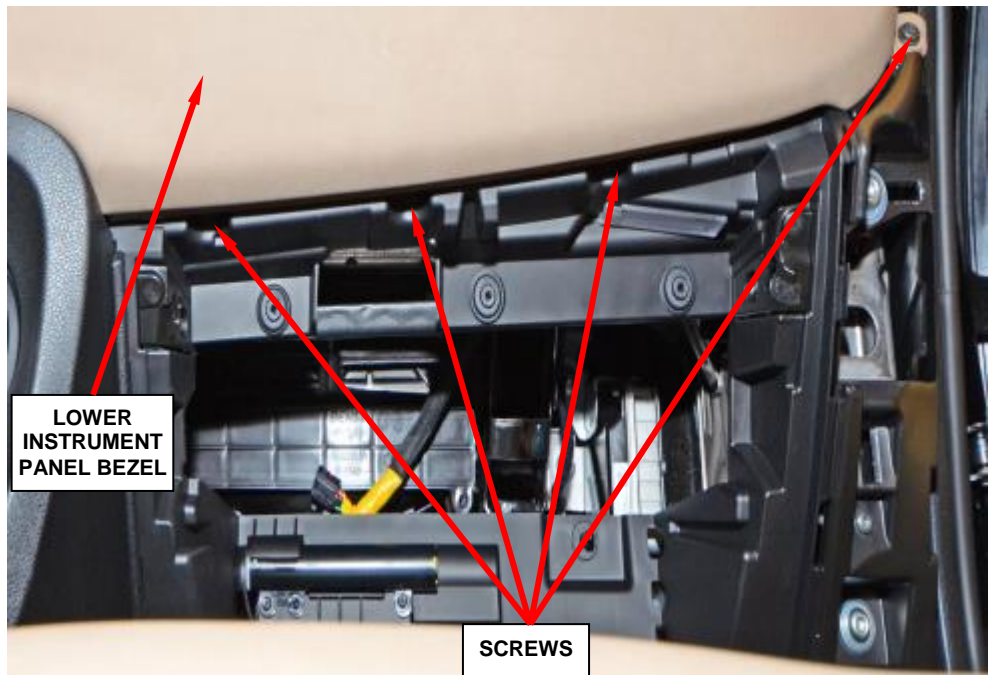

Figure 28 – Lower Instrument Panel Bezel
36. Remove and save the four screws from the lower instrument panel bezel (Figure 28).
88. Install the four screws into the lower instrument panel bezel and tighten securely (Figure 28).